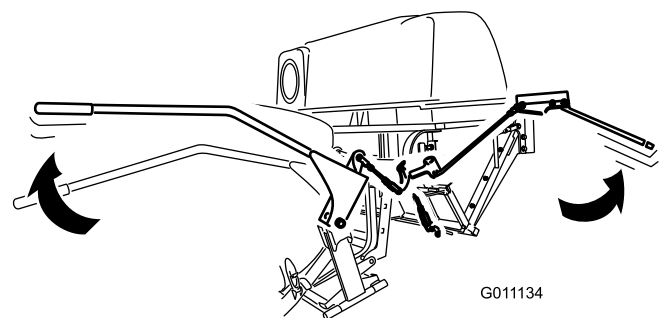

Figure 33
3. Push the handle down to close the door (Figure 33).